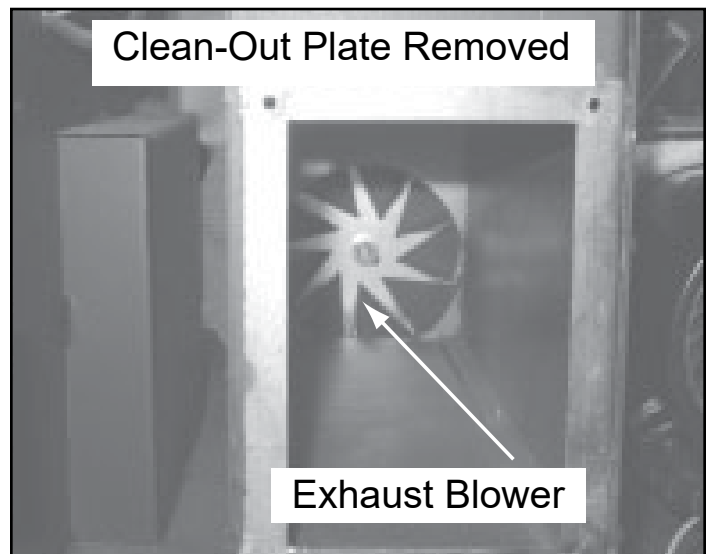

Figure 21.3
- c. Use a small vacuum hose attachment to clean area (**Figure 21.3**).